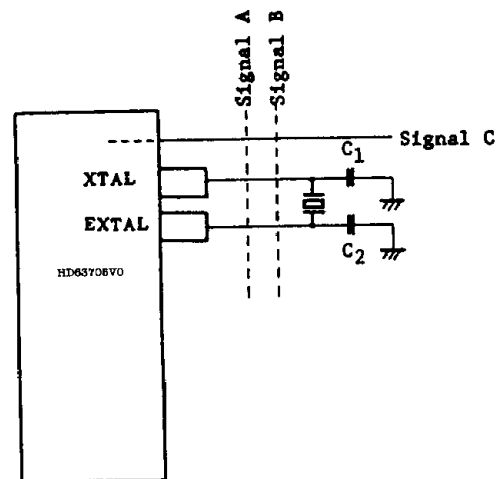

Figure 41 Example of Circuit Causing Trouble in Oscillation
- (1) Locate crystal, ceramic resonator, and load capacity  $C_1$  and  $C_2$  as near the LSI as possible. (Induction of noise from outside to the XTAL and EXTAL pins may cause trouble in oscillation.)
- (2) Wire the signal lines to the neighboring XTAL and EXTAL pins as far apart as possible.
- (3) Board design of situating signal lines or power supply lines near the oscillator circuit as shown as Figure 41, should not be used because of trouble in oscillation by induction. The resistor between the XTAL and EXTAL, and pins close to them should be  $10M\Omega$  or more.